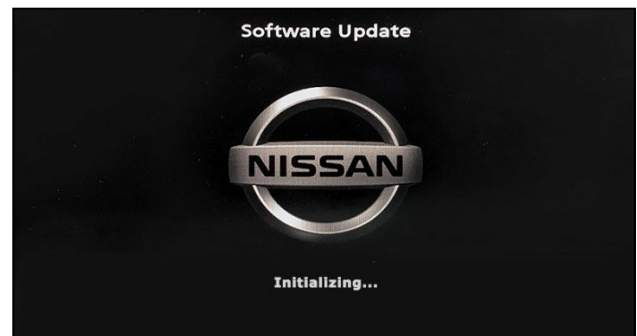

Figure 10
17. Wait approximately 10-30 seconds for the screen in Figure 10 to appear.